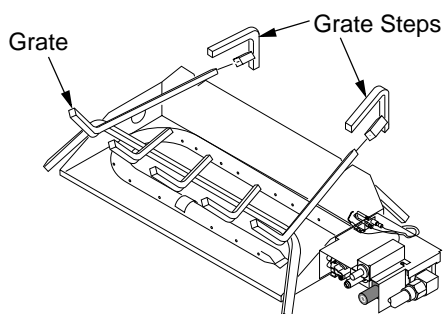

Figure 14 - Installing Grate (Pan Material Not Shown)
2. Slide the two rear log grate steps over the two outer horizontal supports on the grate as shown in Figure 14.